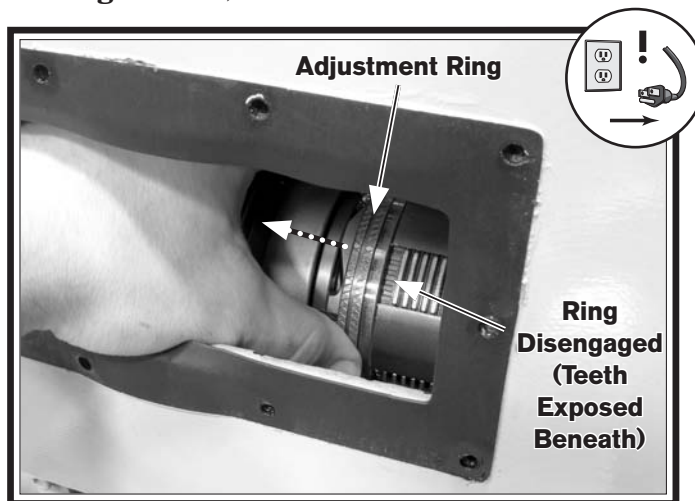

Figure 125. Disengaging adjustment ring (reverse side shown).
7. Use a metal scribe or permanent marker to mark the position of the adjustment ring relative to its clutch assembly, then use a small screwdriver to pry and slide the necessary adjustment ring away from its corresponding clutch to unlock it (see **Figure 125**).